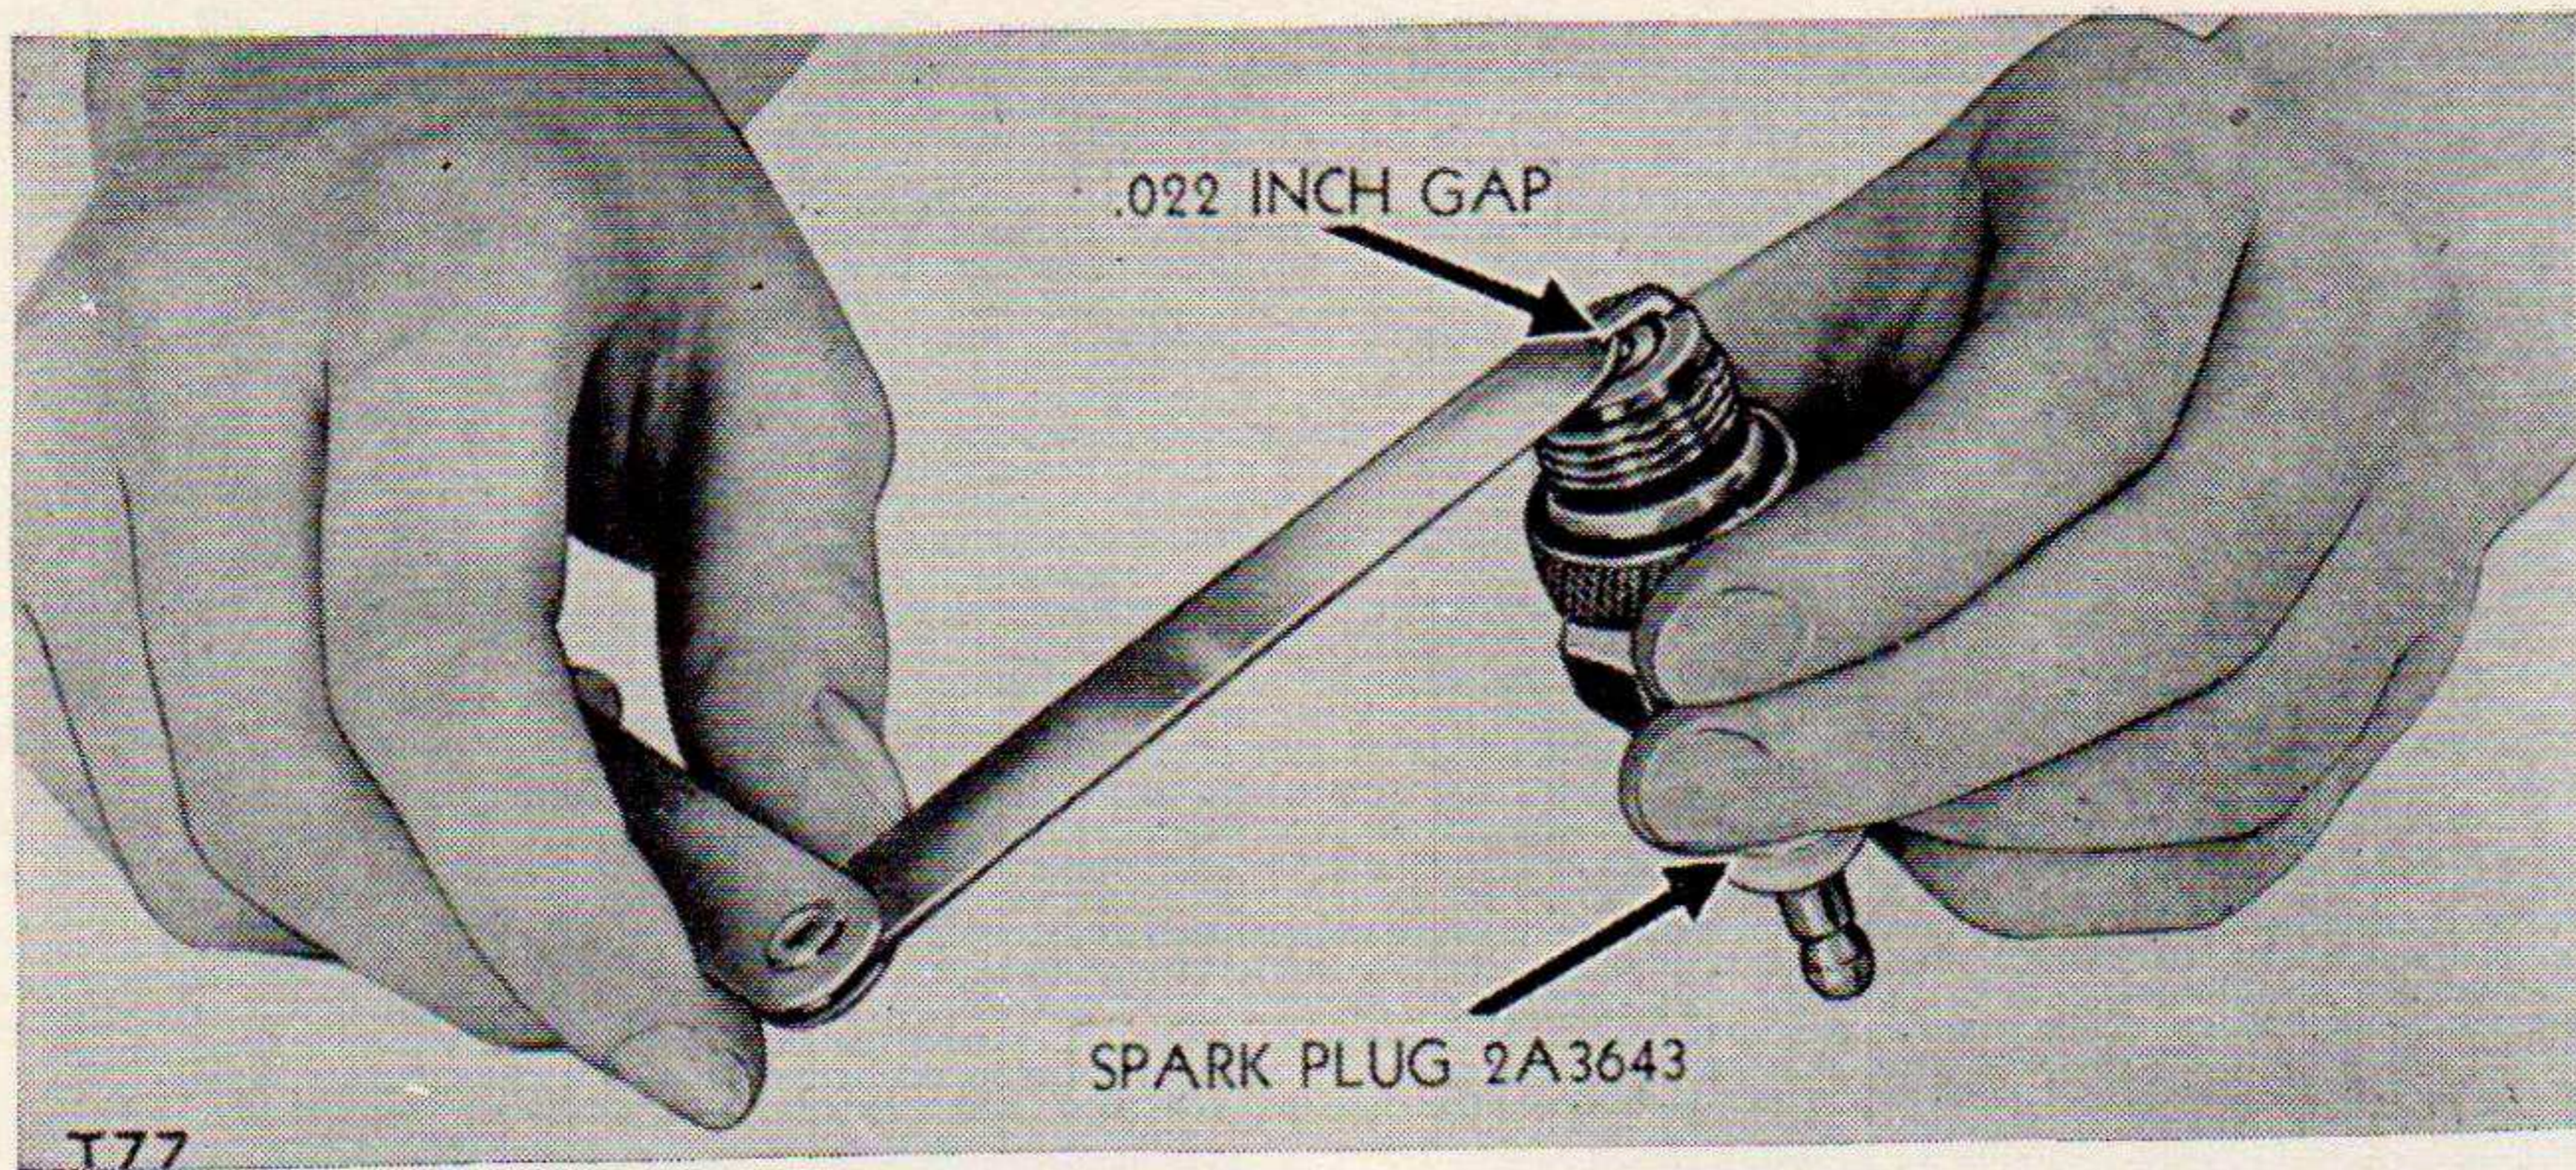

Figure 58. Checking spark plug gap.
- (1) *Spark plug gap.* (See fig. 58.) The spark plug gap is .022 inch. Measure the gap with a thickness gage.
- (2) *Gap adjustment.* Adjust the gap by bending the outer electrode.